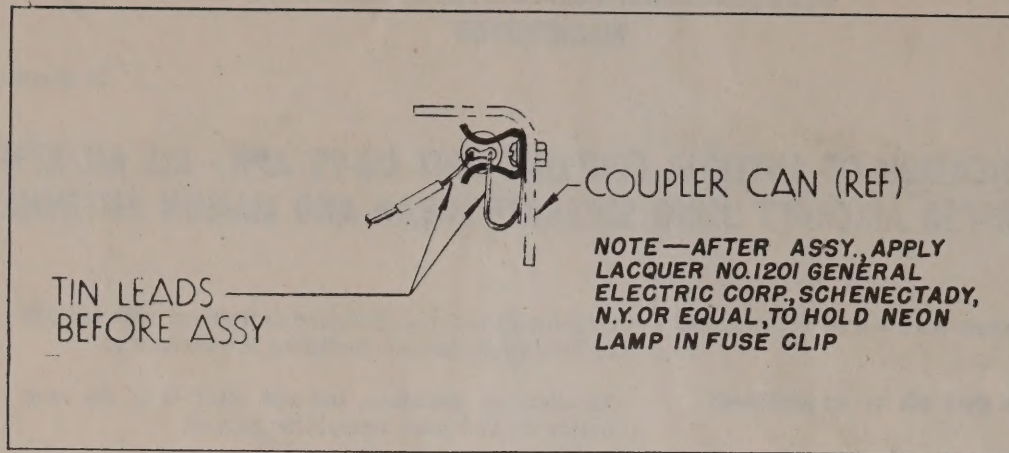

Figure 2
No. AN515B4-4, a washer, part No. AN935-4, and a nut, part No. AN340B4. Shank of terminal and end of clip having indentations will be toward open end of can. (See figures 2 and 4.)
h. Install a 3/8-inch length of tubing, stock No. 7100-882175, over upper lead of neon lamp. (See figure 2.)